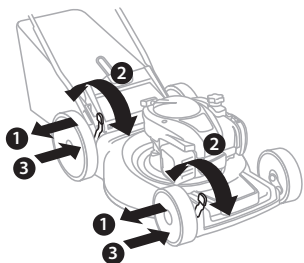

Fig. 8
3. Move the lever and wheel up or down to the desired position(2), release the lever to lock the wheel in position(3). Be sure the rear height adjuster lever and front adjuster lever are at the same height. (Fig. 8)